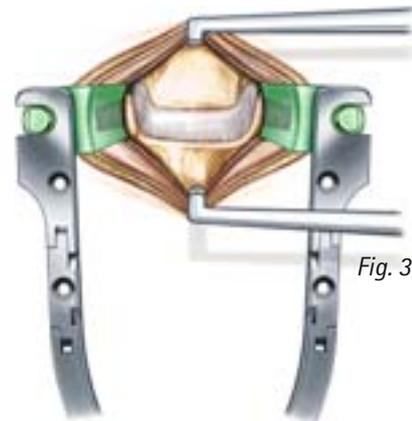

Fig. 3
- ✦ The distraction screws are placed in position and the CASPAR distractor is applied following the CASPAR technique (Fig. 3).